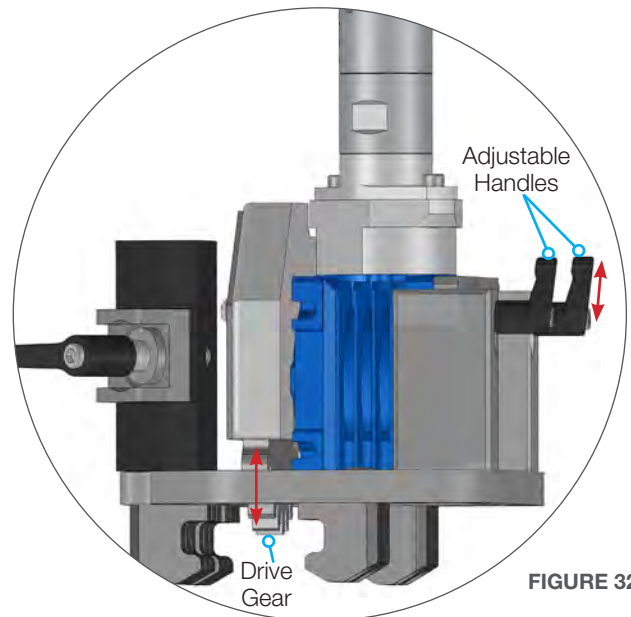

FIGURE 32
13. Rotate both Adjustable Handles on the Linear Drive up to retract the Drive Gear and allow the Linear Drive to slide along the Drive Rail. **(Figure 32)**